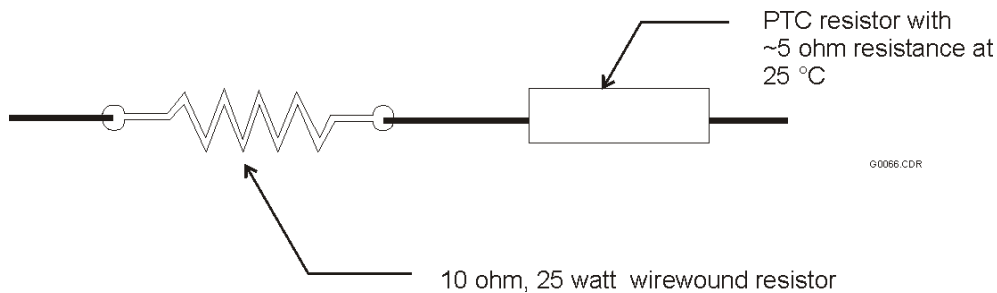

Figure 15. Recommended Inrush Current Limiting Circuit.
The configuration shown in Figure 15 is typically used for Inrush Current Limiting for one (1) up to four (4) AC Superdrive.